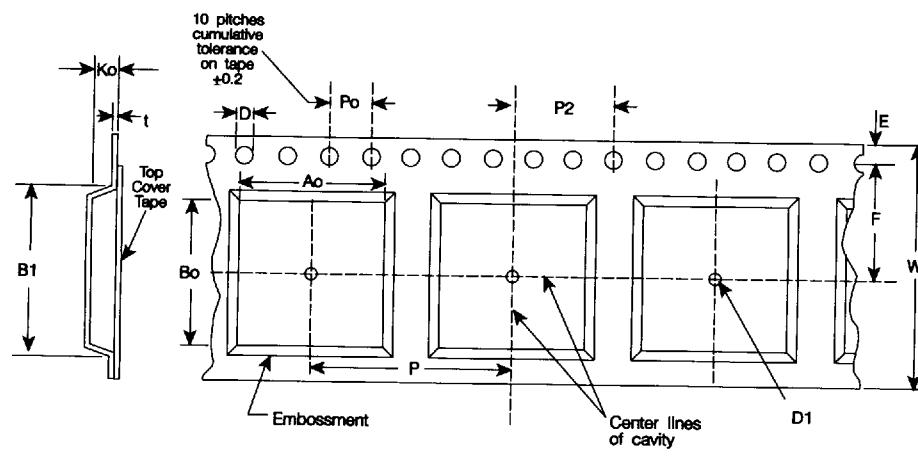

Fig. 1a
2. Dimensions (Refer to Figures 1a, 1b and 1c)